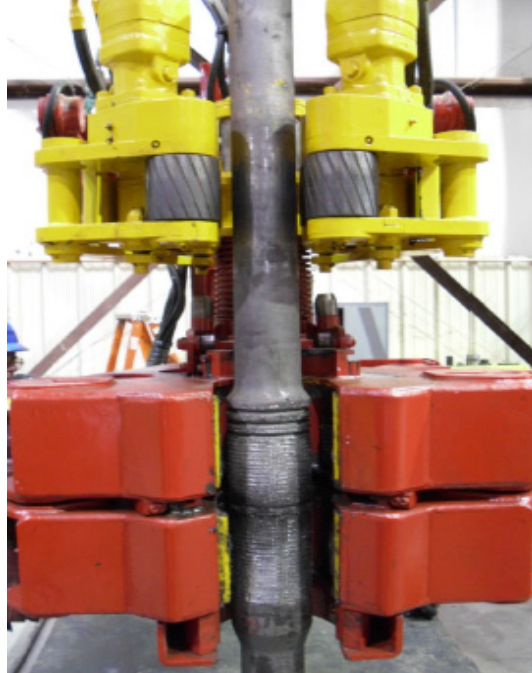

Figure 5: Ensure Adequate Clearance Between the Pipe and the Clamps
7. Ensure there is adequate clearance between the pipe and the lower, upper, and spinner clamps (see Figure 5).